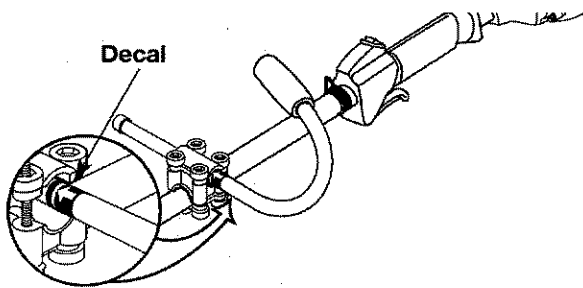

Fig. 2
2. Whilst holding the three pieces together, install the four (4) screws through the top clamp and into middle clamp.
5. Slide the J-handle in or out until the arrow/white line on the decal touches the clamp assembly (Fig. 2).